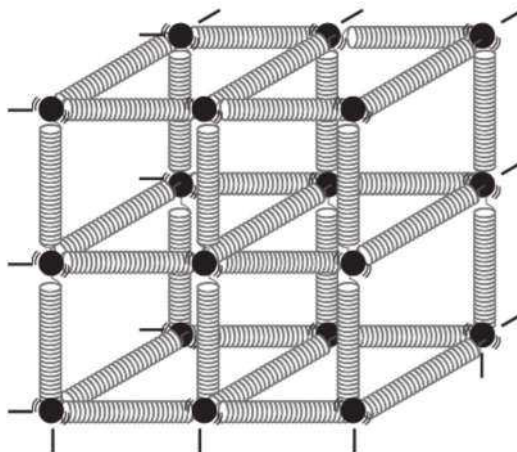

Fig. 1.1 Spring-ball model (Source: NCERT book).
- On the removal of deforming/applied force interatomic forces drive the atoms or molecules back to their original positions and hence it recovers its original state (i.e. Shape and size). This mechanism is very well visualized by a model of spring-ball system shown in the Fig. 1.1 (Source NCERT book).